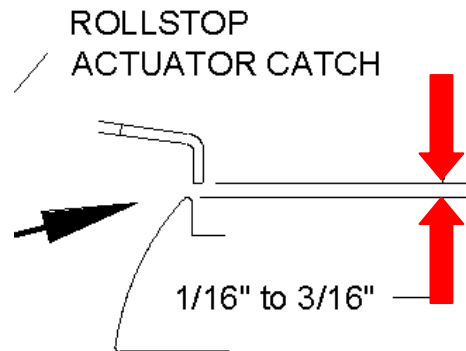

FIGURE 4-21: ROLLSTOP ACTUATOR
- 13) Refer to **Figure 4-21**. Close Rollstop so that engagement hook clears the inside of actuator catch and listen for “click” from Rollstop closed Switch which signals a change in switch state.